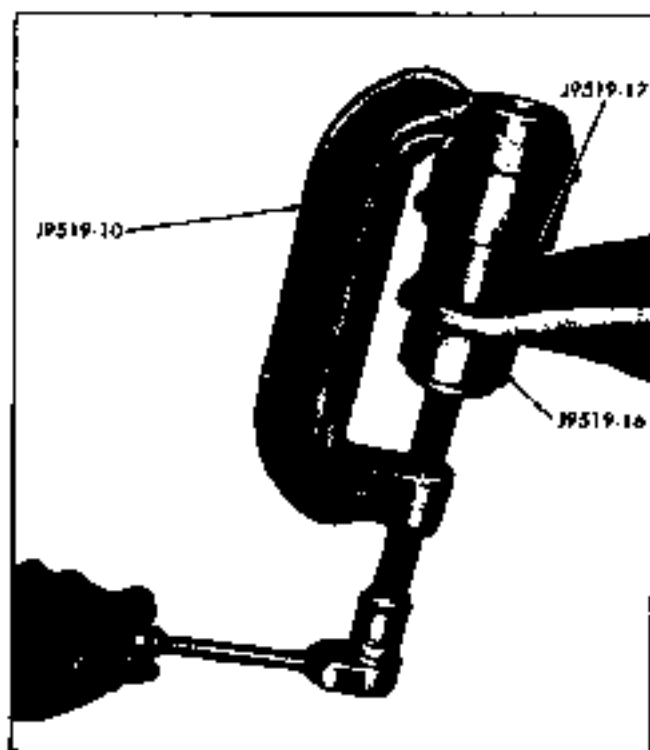

Fig. 3-24 Lower Ball Joint Installation
1. Start the replacement ball joint assembly into the control arm and position tools J 9519-10, J 9519-16 and J 9519-17 as shown in Fig. 3-24.